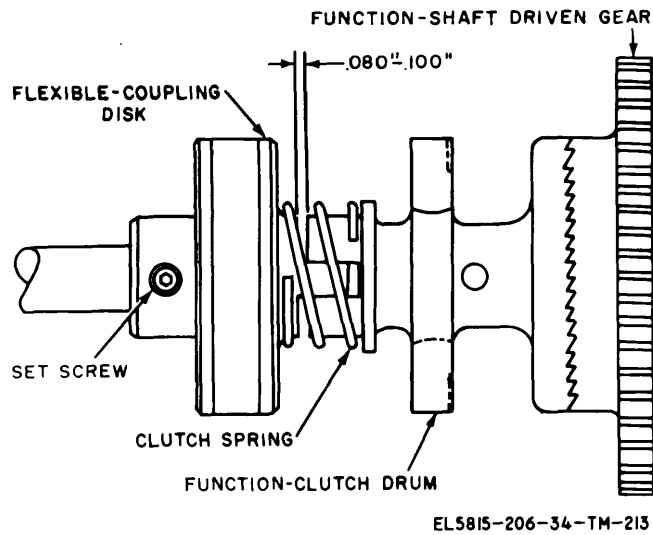

Figure 3-141. Function-clutch tension adjustment (TT-4A/TG and TT-698/TG).
(fig. 3-141)
(3) Immediately after the transfer operation has occurred and the function-clutch drum has engaged the function-shaft driven gear (fig. 3-141), the function sensing levers (fig. 3-104) should fail to the